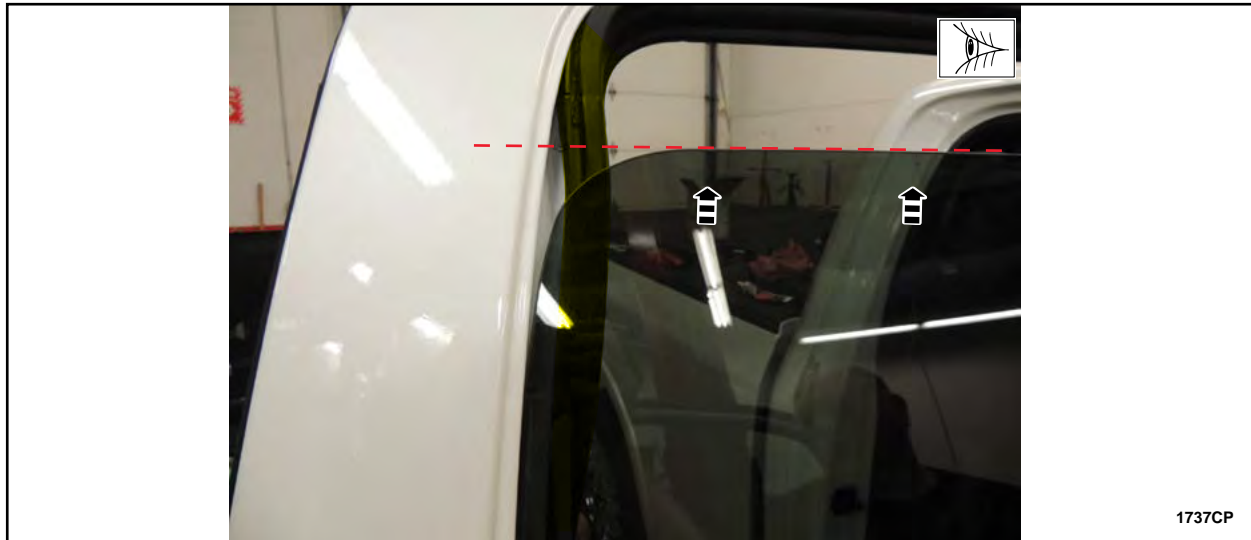

FIGURE 72
14. With the rear door latch side door glass top run still positioned aside raise the rear door window glass three quarters of the way up. See Figure 72.